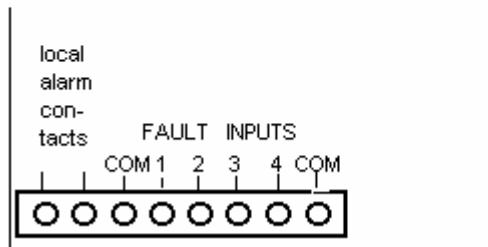

Figure 3. I/O Terminal Connections
**Step Three - Connect External Input/Output to the Dialer** Each Fault input has a corresponding terminal (1 - 4), and there are two COM terminals. See Figure 3